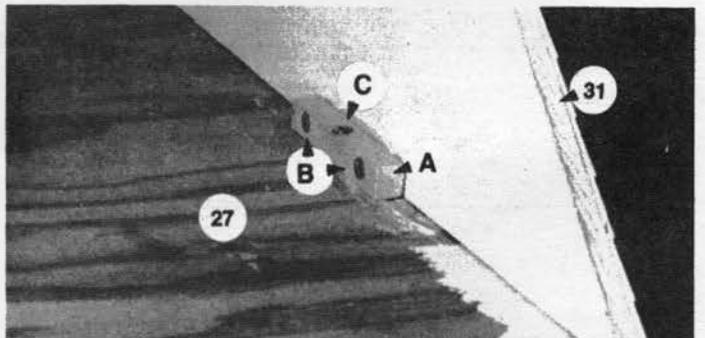

Fig. 13
Sometimes parts need to be assembled so that they may be separated again at will. In (FIGURE 13) the roof assembly is to be removable. To accomplish this use a block of white pine 1/2 inch by 1/2 inch by three inches long (A), attach this permanently to part 31 with two screws (B) and glue. Screw (C) will now hold the assembly in place until it needs to be removed.